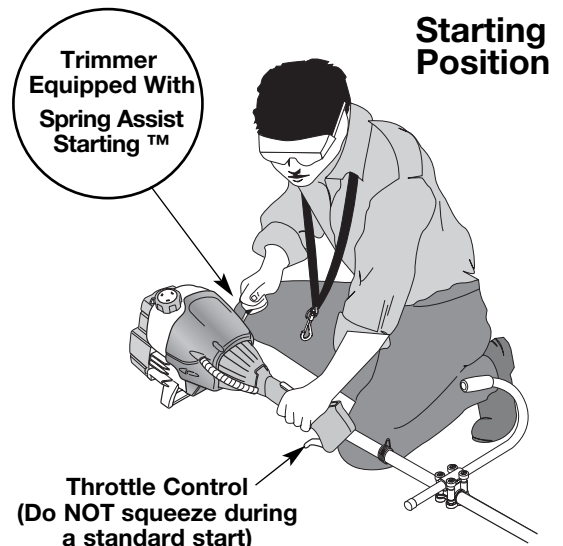

Fig. 18
WARNING: Avoid accidental starting. Make sure you are in the starting position when pulling the starter rope (Fig. 18). To avoid serious injury, the operator and unit must be in a stable position while starting. Make sure that any Add-On item is installed correctly and secure before starting the unit.
4. Crouch in the starting position and **do not squeeze the throttle control** (Fig. 18). Pull the starter rope out with a **controlled and steady motion** until the engine attempts to start. Repeat until the engine starts.